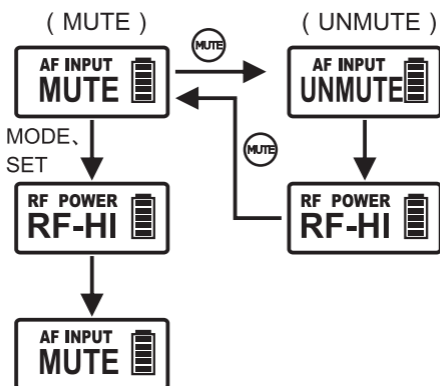

Fig. 15
2. Press MODE, SET buttons to access parameters. Returns to mute mode when button is not pressed for 5 seconds, Fig 15.